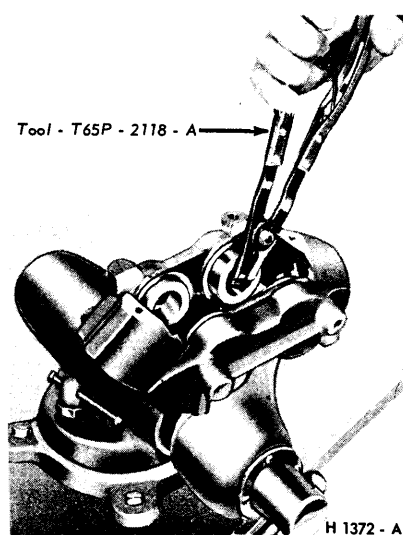

FIG. 24—Removing or Installing Pistons
7. Clamp the caliper in a vise and secure it by the mounting flanges on the inboard housing (Fig. 24).
8. Remove the four pistons from the cylinder bores with the special tool shown in Fig. 24. To prevent cocking with consequent damage to the piston or bore, rotate the piston with the tool while pulling it outward at the same time. **Be careful to avoid scratching or damaging the outside diameter surface or dust boot retaining groove of the piston. Such damage causes poor sealing.**
4. Coat the outside diameter of the pistons with brake fluid and install them in the cylinder bores so that the open end of the piston and the boot retaining groove face out of the bore. To avoid cocking, locate the piston squarely in the bore and apply a slow steady pressure. If a piston will not easily go all the way into the bore, remove it and thoroughly inspect the cylinder bore, the piston seal and the installation of the seal. If the piston still will not go in with bore in good condition and the piston seal properly installed, use the tool shown in Fig. 24. Rotate the piston with the tool while pushing it inward at the same time.